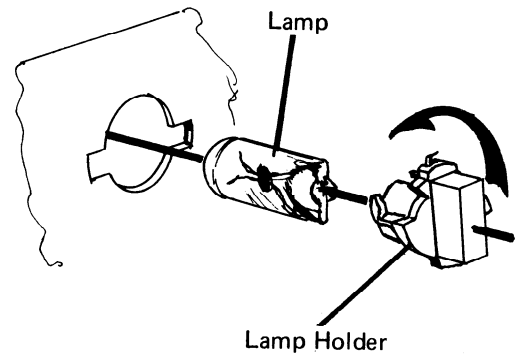

FIGURE 12
- Turn lampholder 1/8 turn counterclockwise and remove from PC Board. (Figure 12)